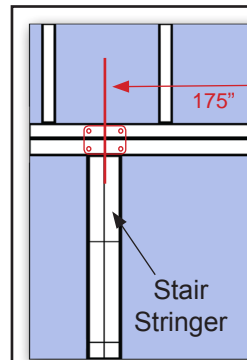

Fig. 1b
*MOUNTING ON WOOD DECK: IT IS VERY IMPORTANT TO SECURE THE RAIL MOUNTING BASES INTO THE JOIST SUPPORTS BELOW FOR OVERALL STRENGTH AND STABILITY. MOST DECKS HAVE DOUBLE JOISTS AT THE PERIMETER AND TO OPTIMIZE RAILING STRENGTH, THE BASE SCREWS SHOULD BE LOCATED IN EACH OF THOSE (FIGURE 1B AND 1C). ANY DECKING OVERLAP FROM THE JOIST MUST BE TAKEN INTO CONSIDERATION WHEN MEASURING.*